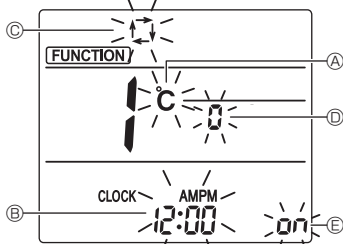

Fig. 5-11
1. Press the **STOP** button ① to stop the air conditioner.
2. Press the **MENU** button ②.
3. Check that function No. "1" is displayed, and then press the **SET** button ③.
4. Press the **UP/DOWN** button ④ to change the function No.
5.10.2. Changing the temperature unit (Fig. 5-11 Ⓐ)
- Press the **TEMP** button ⑤.
- Each time the **TEMP** button ⑤ is pressed, the setting switches between °C and °F.
5.10.3. Changing the time display (Fig. 5-11 Ⓑ)
- Press the **TIME** button ⑥.
- Each time the **TIME** button ⑥ is pressed, the setting switches between 12:00 and 24:00.
5.10.4. Changing the AUTO mode (Fig. 5-11 Ⓒ)
- Press the **MODE** button ⑦.
- Each time the **MODE** button ⑦ is pressed, the setting switches between **1** and **2**.
5.10.5. Changing the pair No. (Fig. 5-11 Ⓓ)
- Press the **UP/DOWN** button ④.
- Each time the **UP/DOWN** button ④ is pressed, the pair No. 0-3 changes.